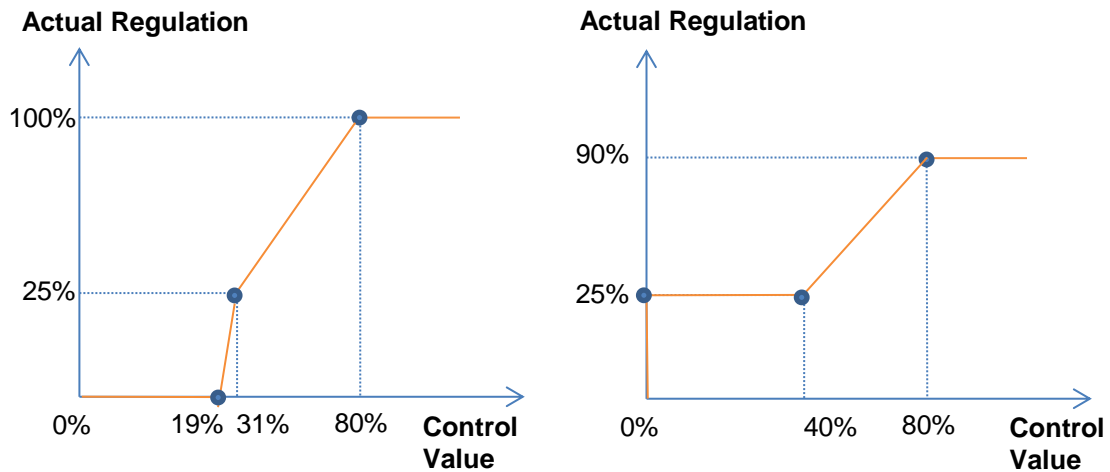
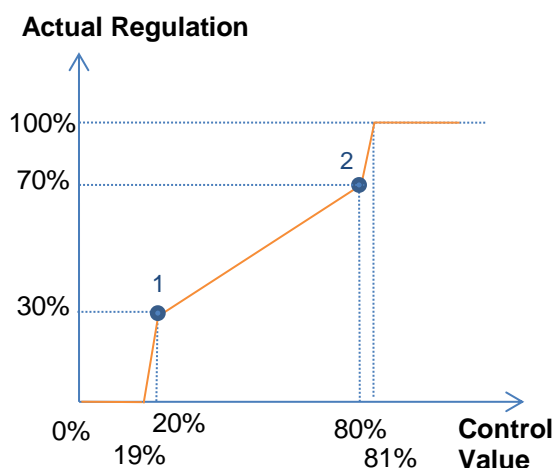

Figure 12. Custom Control Curves.
Figure 13. Values Out of Range
In case the first and last points do not correspond (respectively) to values 0% and 100%, the characteristic curve will be defined as follows (see Figure 12 and Figure 13):
- For **control values lower than that of the first point**, the actual regulation value will be 0%. For example, in Figure 13 all control values under 20% imply a regulation value of 0%.
- For **control values greater than that of the last point**, the actual regulation value will be 100%. For example, in Figure 13 all control values over 80% imply a regulation value of 100%.